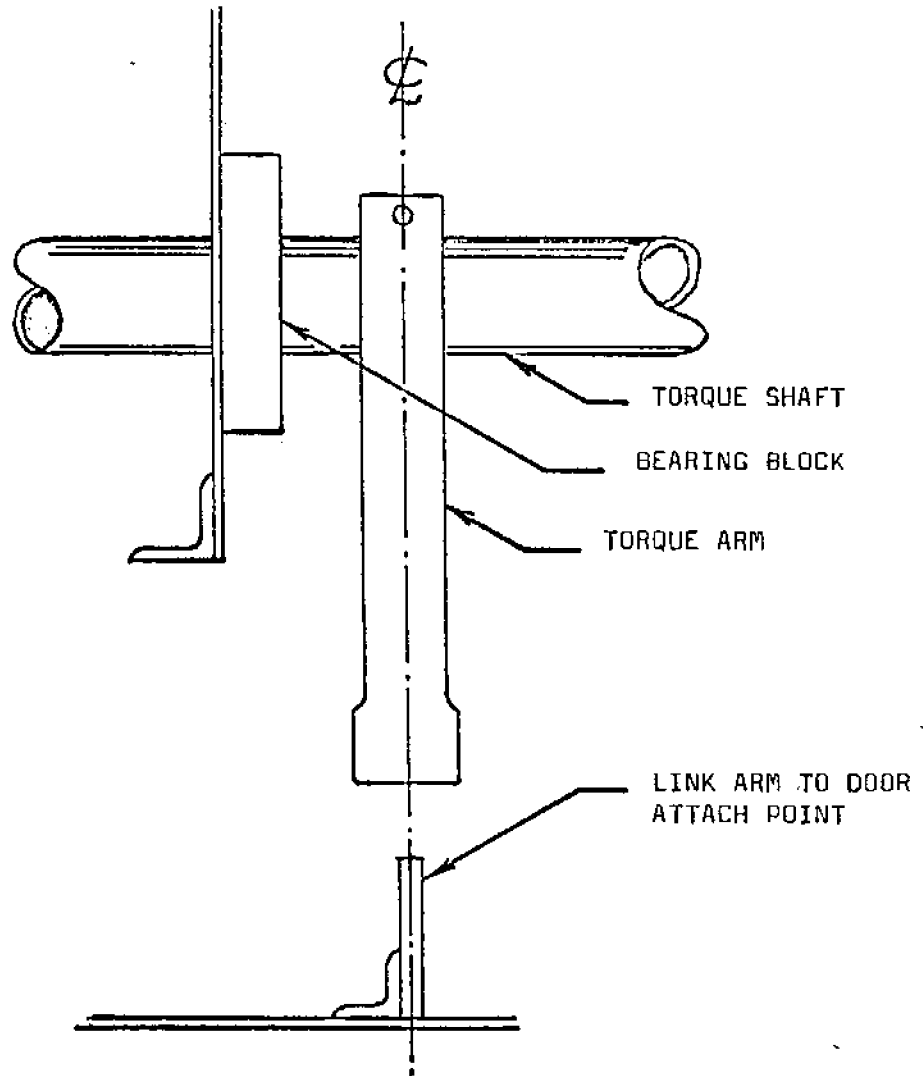

Figure 3-2. Torque arm and door alignment.
- C. With the torque shaft(s) rotated to the fully open position, so that the torque arms are pointed down, swing the door(s) towards the closed position, checking the alignment of the door rib assemblies to the center lines of the torque arms, as shown in Figure 3-2. Adjust as necessary.